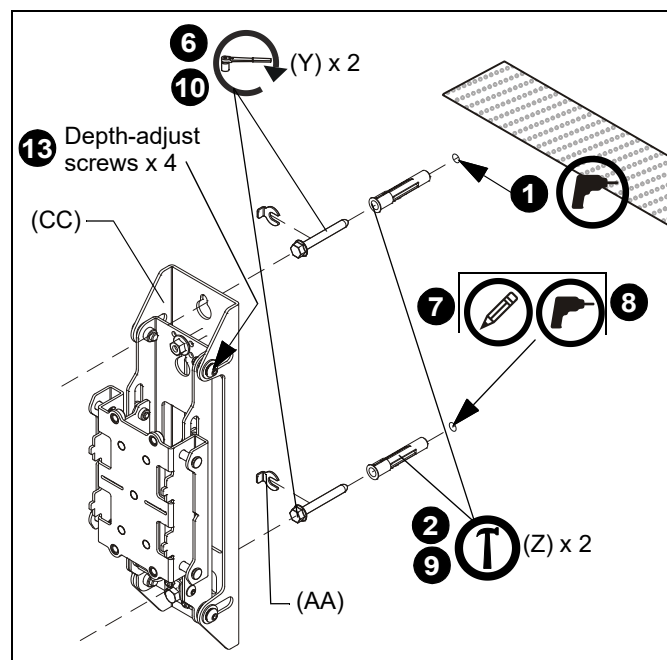

Figure 9
1. Drill one 3/8" x 3-1/2" (9.5mm x 88.9mm) pilot hole at each marking. (See Figure 9)
2. Install one anchor (Z) into each pilot hole using a hammer, making sure that the anchor is flush with the wall.
3. Partially install one 5/16 x 2-3/4" flanged lag bolt (Y) into pilot hole but do not tighten to wall.
4. Hang outside wall upright (CC) [or center wall upright (DD)] aligning upper mounting slot over lag bolt and level upright.
5. Place one slotted washer (AA) over each flanged lag bolt. (See Figure 9)
7. Mark the attachment point for the lower mounting slot. (See Figure 9)
8. Drill 3/8" x 3-1/2" (9.5mm x 88.9mm) pilot holes at marking for lower mounting hole. (See Figure 9)
9. Install an anchor (Z) into each pilot hole using a hammer, making sure that the anchor is flush with the wall.
10. Use one 5/16 x 2-3/4" flanged lag bolt (Y) and one 5/16" slotted washer (AA) to attach the wall upright to the wall through the lower mounting hole. (See Figure 9)